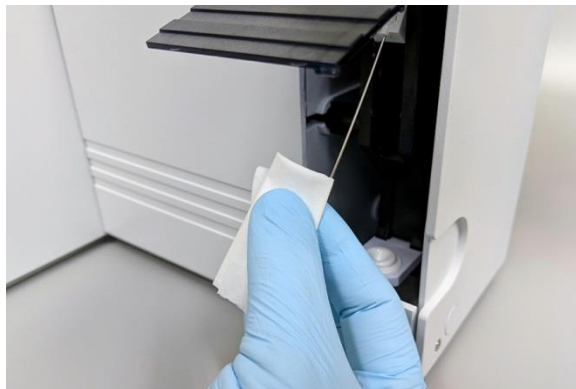
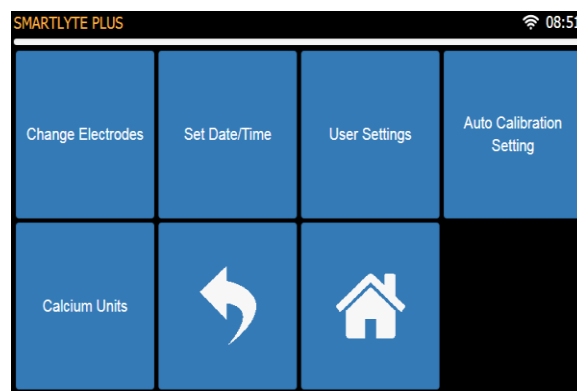

Figure 1-62 Wiping sample probe
Figure 1-63 Operator Settings Menu
- Select [OPERATOR SETTING] (Figure 1-62) in the Main Menu, then [AUTO CALIBRATION SETTING] (Figure 1-63).
- The 4 Hour Cal can be turned off or on by selecting [DISABLED] or [ENABLED]. (Figure 1-62)